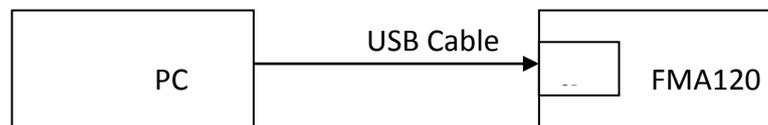

Figure 56 Connect FMA120 to PC and configure
2. Disconnect LV-CAN200 or ALL-CAN300 from FMA120, and connect PC USB cable to FMA120 Device (Figure 56). It is very important not to disconnect FMA120 from power source, because then all CAN data will be lost.